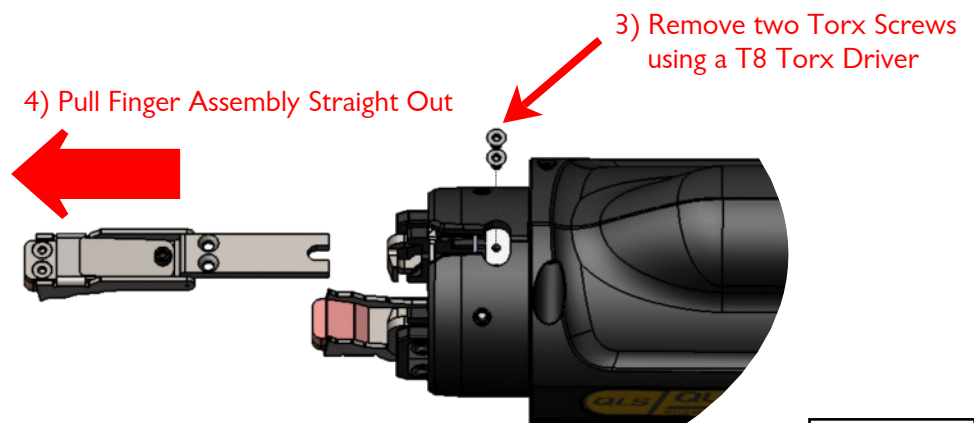

Figure 19
5. Using a T8 Torx driver remove the two flat head screws holding the Grip Finger Assembly in place (Figure 19). Once the screws are removed the grip finger assembly will slide out as shown.